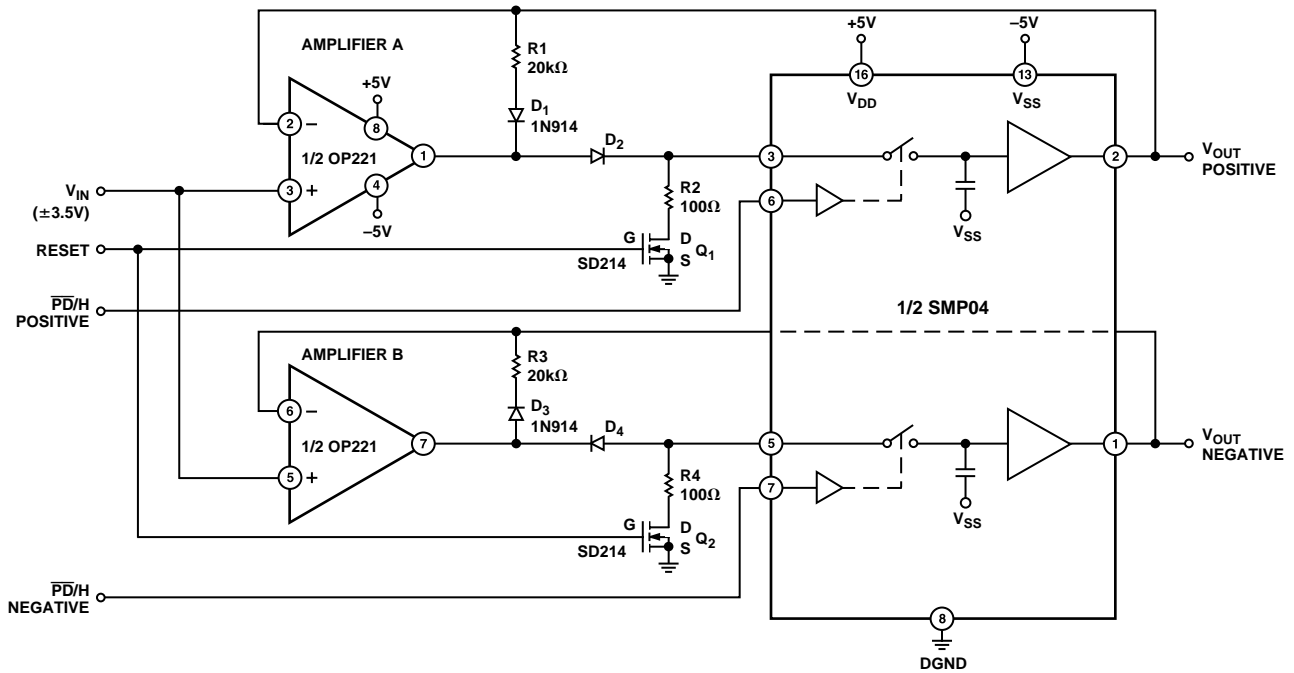

Figure 21. Positive and Negative Peak Detector with Hold Control
**POSITIVE AND NEGATIVE PEAK DETECTOR WITH HOLD CONTROL (Figure 21)**